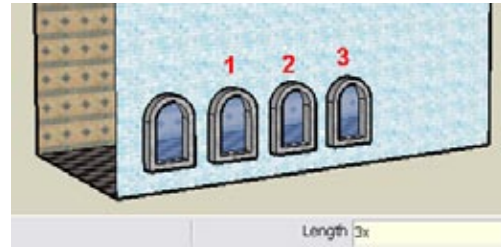

Figure 1-4
- Making an external linear array in SketchUp is easy: Type the number of copies you want, followed by an x , and then press Enter. Type $3x$ and press Enter, for a total of four windows (Figure 1-4).